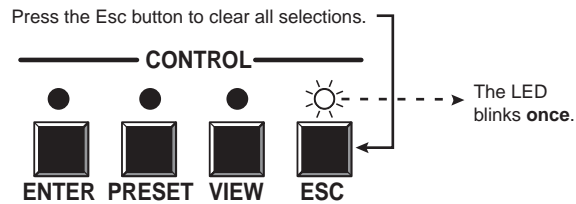

Figure 3-10 — Clear all selections
1. Press and release the Esc button (figure 3-10).